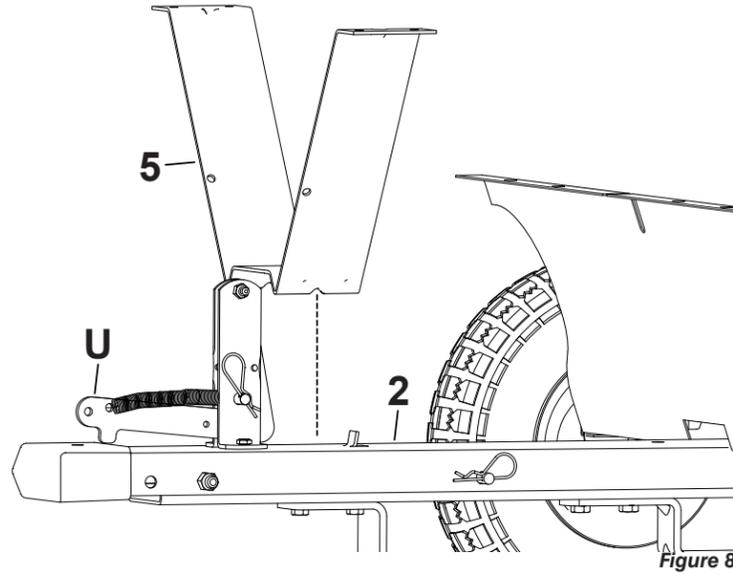

Figure 8
STEP 1 (SEE FIGURE 8): Place the latch stand bracket (5) onto the rear tongue (2). The front of the latch stand (5) will need to go under the lock bracket (U) and the rear will sit in front of the raised tab.